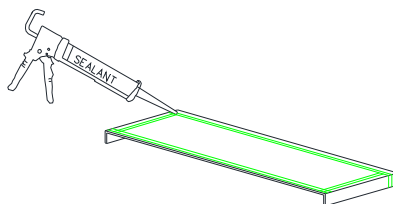

Figure 5:
- With bottom side of sillpan up, apply a 3/8" bead of compatible sealant 1/2" in from interior leg. Sealant bead to run across the bottom as well as up each vertical leg of the sillpan. Also apply sealant beads near the sides and across the front (Figure 5).